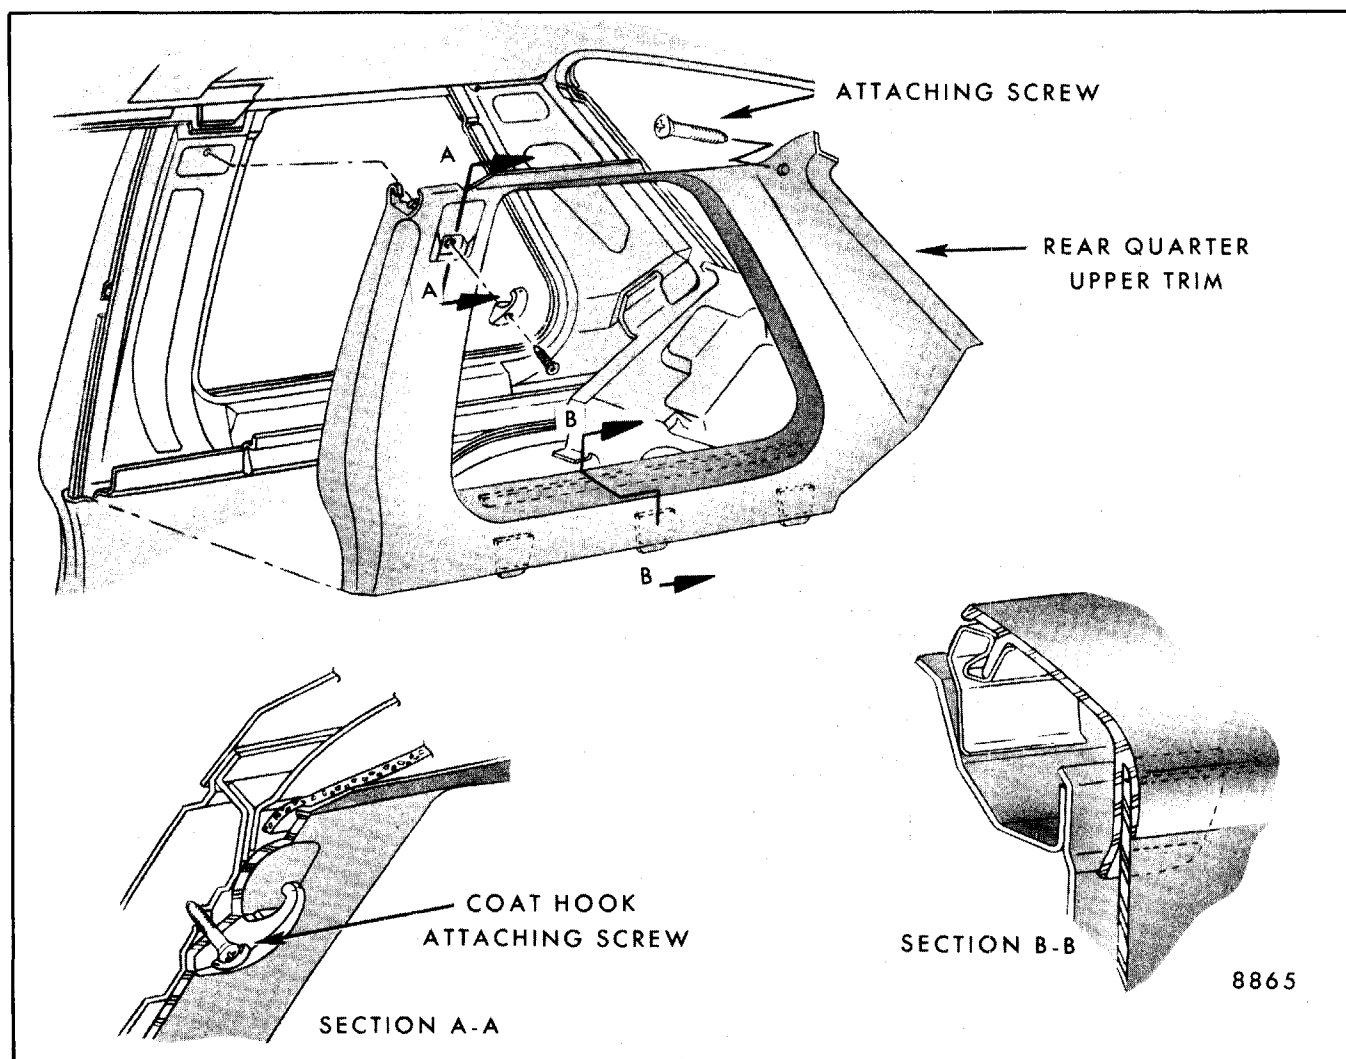

Fig. 6-15-Quarter Upper Trim Attachment - H-27 Style
7. To remove, loosen adjacent moldings where required and remove visible attaching screws (Figs. 6-15, 6-16, 6-19 and 6- 21).